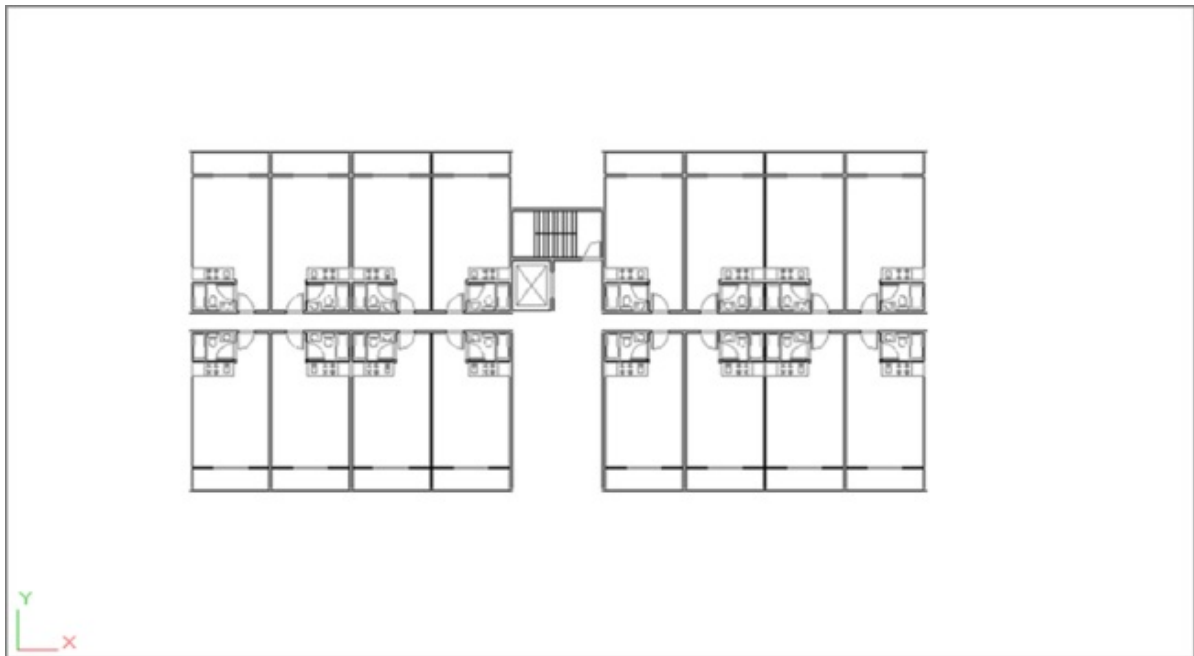

FIGURE 7.3 The Plan drawing
5. Click Zoom All on the Navigation bar's Zoom flyout or type **Z** ↵ **A** ↵ to view the entire drawing, which should look like Figure 7.3.